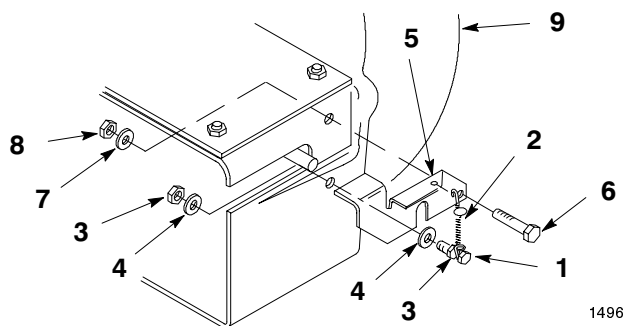

Figure 10
1. Install the long hook end of tension spring and #10 nut onto a #10 x 3/4" screw. Thread the nut on within 1/8" from the head end of screw so that the spring has space to rotate freely (Fig. 10).
2. Slide a #10 washer onto the screw and insert through the blower housing. Install a second #10 washer and #10 nut (Fig. 10). While holding the first nut, tighten the second so that the assembly is tight against the plastic housing.
3. Select the appropriate latch (42" deck-short, 48" deck-long) Hook the spring into the hole in the latch and mount the latch to the blower housing with a 1/4 x 3/4" (19 mm) bolt, 1/4" washer and 1/4" lock nut (Fig. 10). Leave the nut loose enough so that the latch pivots freely.